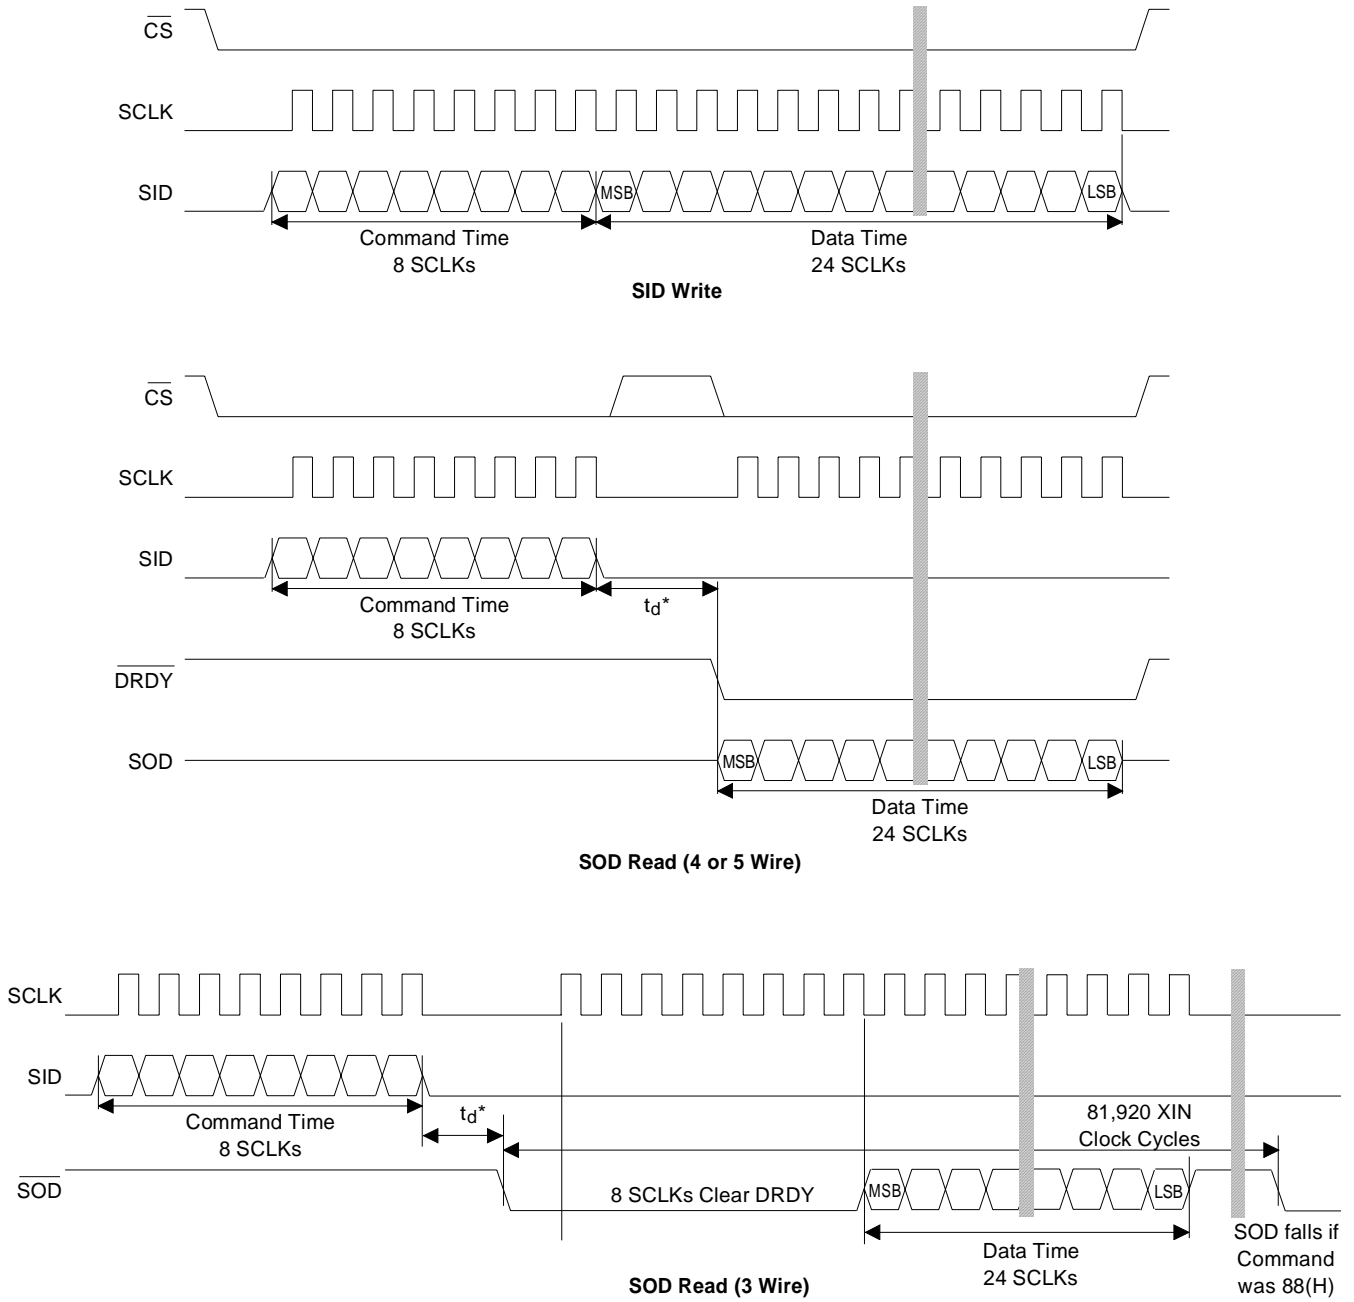

Figure 4. Command and Data Word Timing
Reading a register in the converter requires a command word to be written to the SID pin. For example, to read the conversion data register, the following command sequence should be performed. First, the command word 88(H) would be issued to the port. In the 5 wire interface mode, this would involve activating $\overline{\text{CS}}$ low, followed by 8 SCLKs (note that SCLK must always start low and transition from low to high to latch the transmit data, and then back low again) to input the 8-bit command word. $\overline{\text{CS}}$ must be low for the serial port to recognize SCLKs during a write or a read, but it is actually the first rising SCLK during command time that gives the user control over the port. After writing the command word, the user must pause and wait until the CS5520 presents the selected register data to the serial port. The $\overline{\text{DRDY}}$ signal will fall when the data is available. When reading the conversion data register, it may take up to 112,000 XIN clock cycles for $\overline{\text{DRDY}}$ to fall after the 88(H) command word is recognized. See Figure 4 for an illustration of command and data word timing.